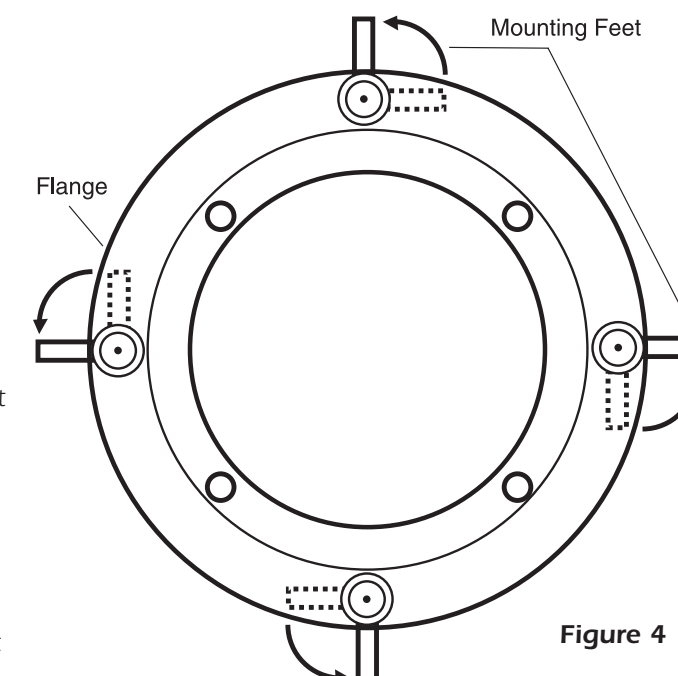

Figure 4
3. Make sure the mounting feet are turned inward to clear the opening, and insert the speaker into the ceiling. Position the speaker into the hole. **Note:** The flange of the speaker is designed to flex and conform to any small imperfections in the ceiling surface. Tighten the 4 screws on the front of the baffle only enough to make the flange become snug against the ceiling. As you tighten the screws, the feet will automatically flip into an outward position (See Figure 4), clamping the drywall between the feet and the flange.